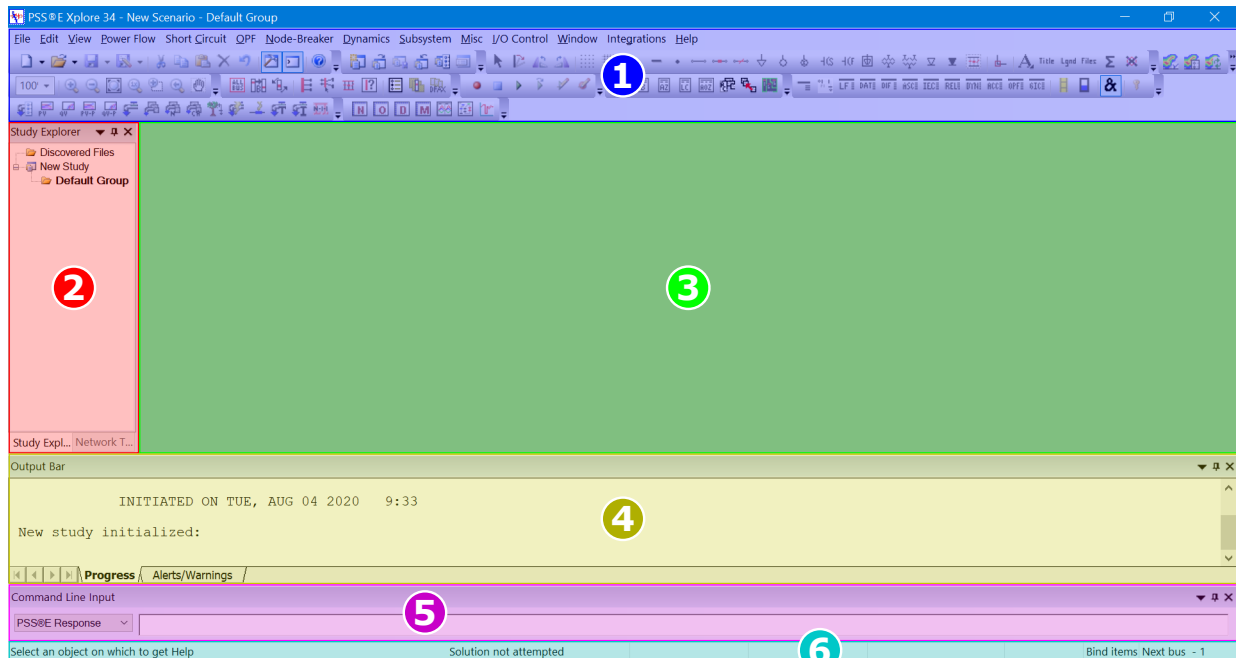

Figure 1: Key areas of the GUI
When we open PSS/E we are greeted by the GUI. In Fig. 1 below the key areas of the GUI are highlighted.
5.1.1 In Table 1 there is are brief descriptions of the functions of these key areas. Can you fill out the last column of Table 1 by referring to Fig 1?